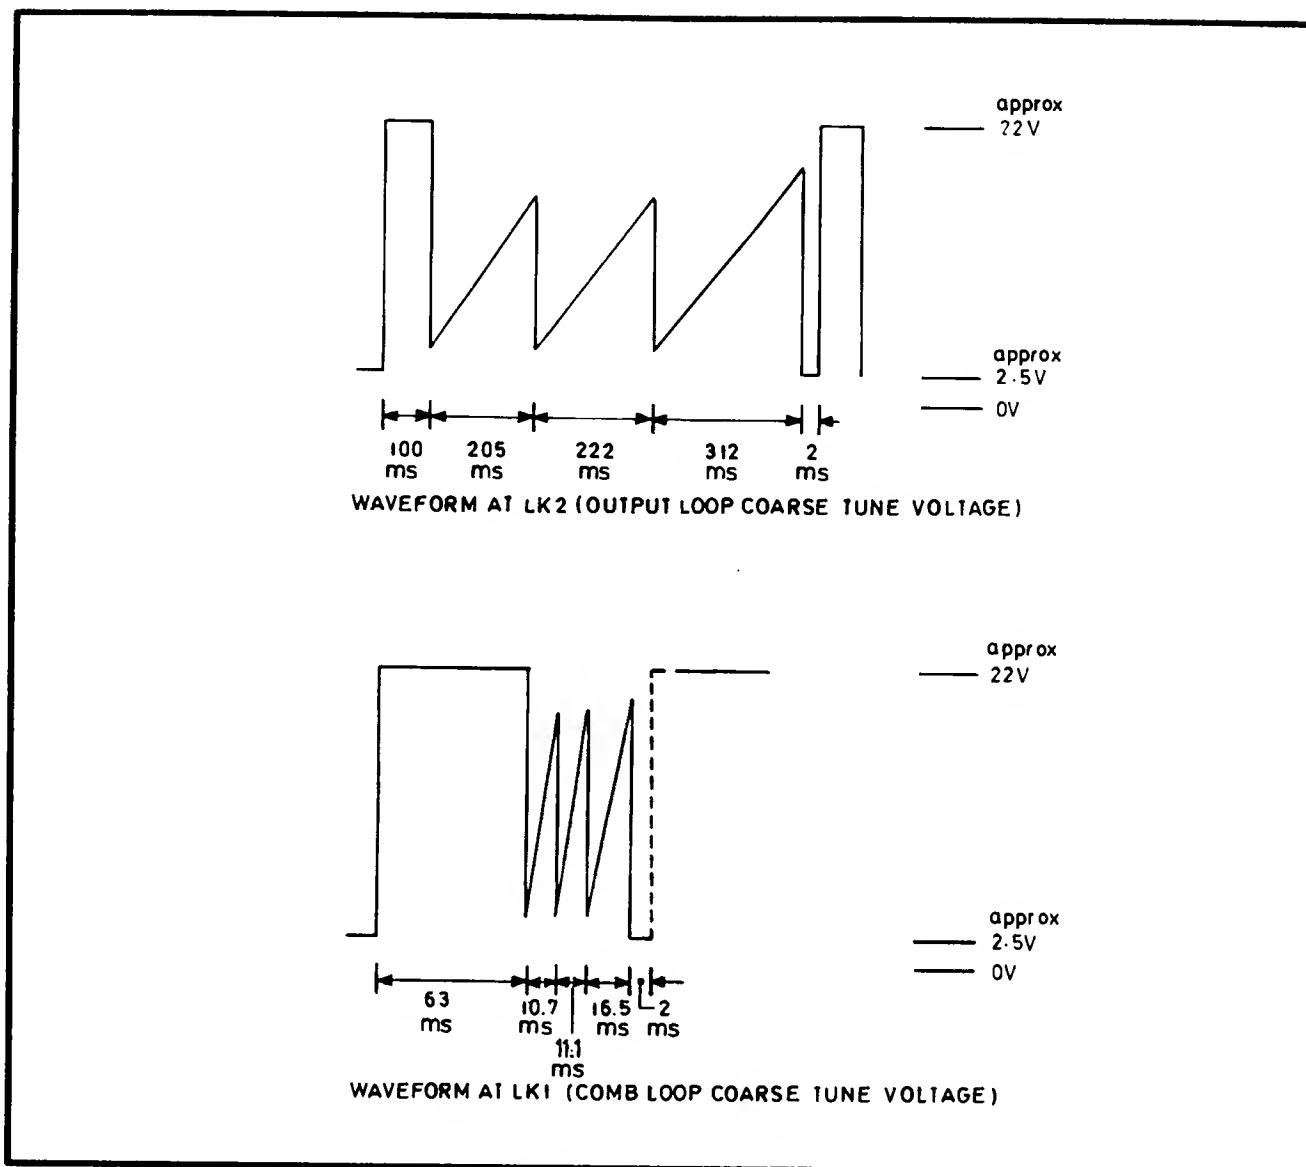

Fig 7.3 D-to-A Converter Test Waveforms
7.4.9.1 Special function 37 provides test waveforms at the outputs of the digital-to-analog converters on assembly 19-1045. The waveforms, which can be observed at links LK1 and LK2 are shown in Fig 7.3.